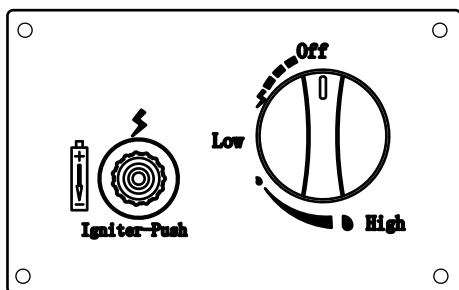

Figure 1
2. Control knob must be in the "OFF" position (Figure 1).